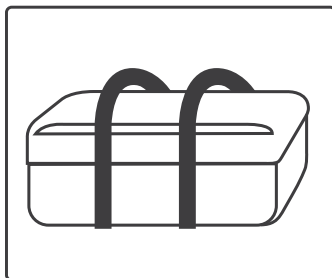

Fig 7 - Valise Storage
7.2.2.1 Valise liferafts can be stored in a locker or inside a boat (see Fig 7).